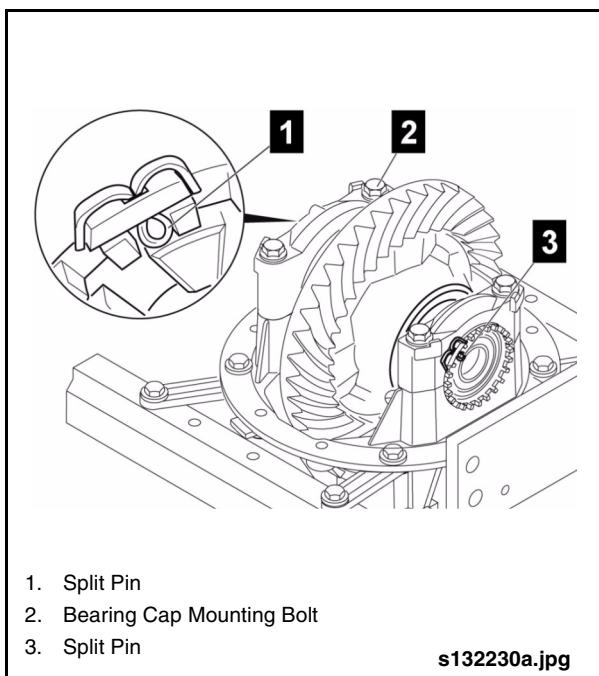

Fig. 2-72: Locking Threaded Bearing Adjusters
9. Secure both threaded bearing adjusters with new split pins. *See "Fig. 2-72: Locking Threaded Bearing Adjusters" on page 60.*